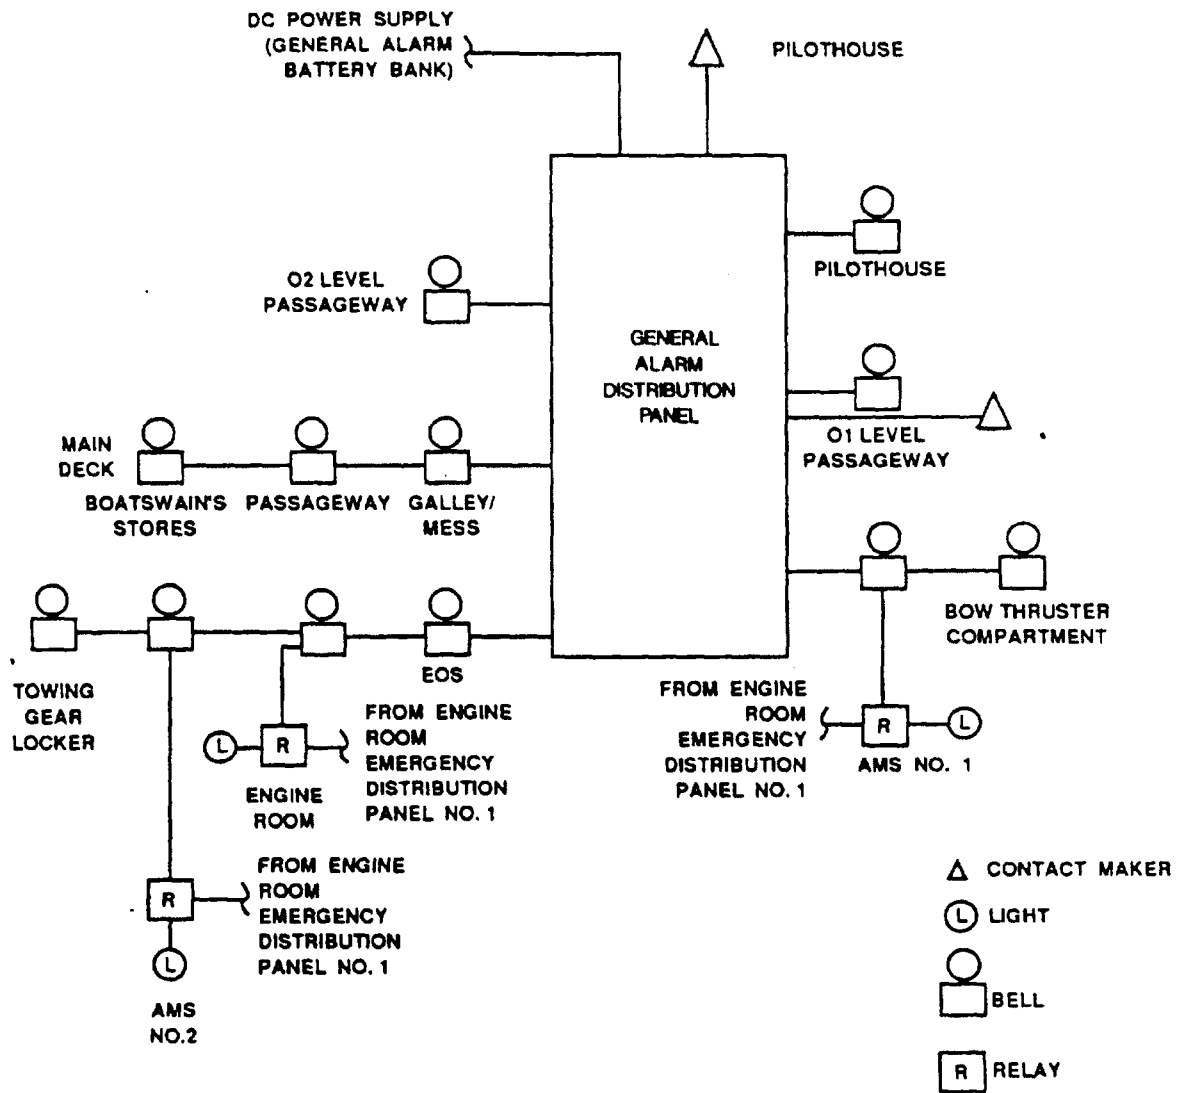

Figure 1-57. General Alarm System.
c. General Alarm System. The general alarm system is a 24 Vdc system used to call the crew to general quarters. Power is supplied by the general alarm battery bank. The system is activated by contact makers located in the pilothouse and 01 Level passageway. Bells provide an audible alarm throughout the LT. In the auxiliary machinery spaces and engine room, the system is equipped with relays which provide 110 Vac to rotating lights during alarm conditions. A simplified block diagram is provided in Figure 1-57.